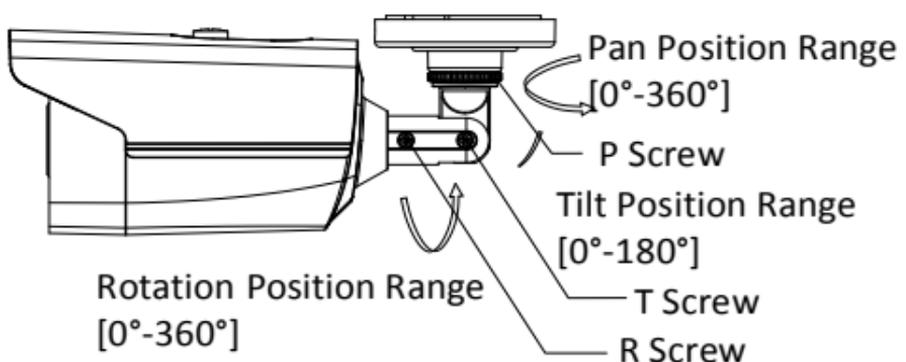

Figure 2-7 3-axis Adjustment
5. Adjust the camera according to Figure 2-7 to get an optimum angle.